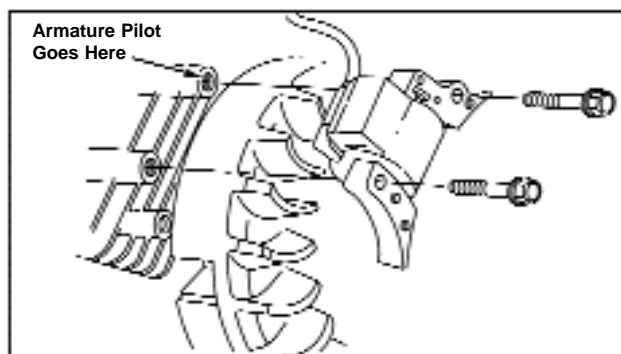

Figure 67 - Installing Armature
2. Place armature on cylinder with armature pilot in boss on cylinder, Figure 67.